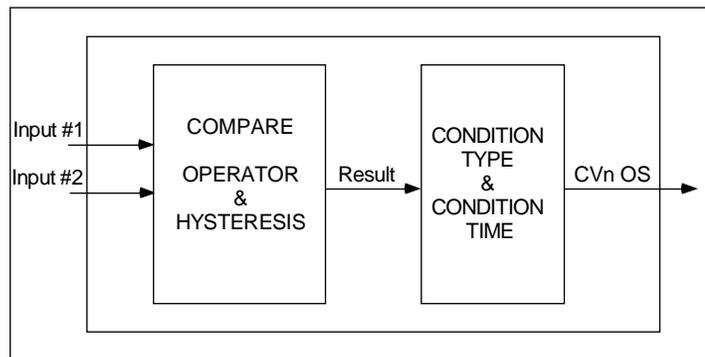
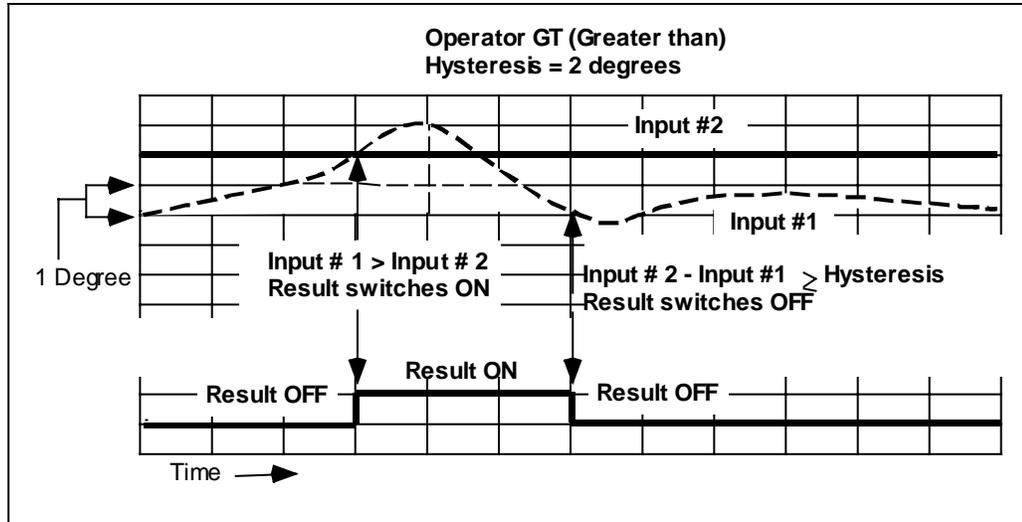

Figure 9-4 Compare Signal Flow
Figure 9-5 Compare's Greater Than Result With Hysteresis
Compare can be used instead of an Alarm's output to control a relay. It can also provide ON/OFF control with hysteresis. If hysteresis is given a value, then CV_n OS will not go OFF (0) until hysteresis value is exceeded. (See Figure 9-4 and Figure 9-5.) Result is then processed according to the specified condition type and condition time.